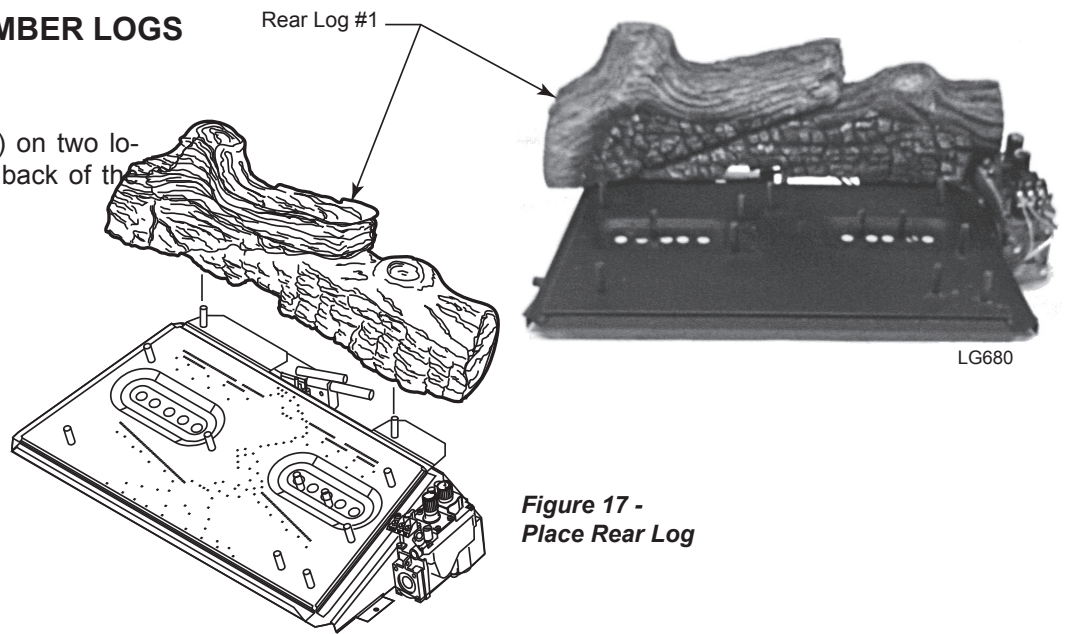

Figure 17 - Place Rear Log
1. Place rear log (#1) on two located pins on the back of the grate. *Figure 17*